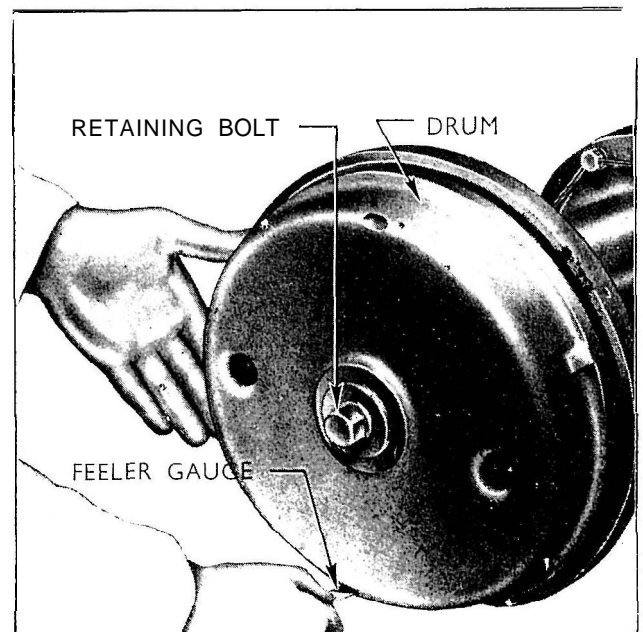

Fig. 222
- 6 Slacken the expander and check the brake drum clearance by inserting a 0.008 in. feeler gauge through the slot in the brake drum. (This clearance must exist around the complete surface of the shoes.) See Fig. 222.